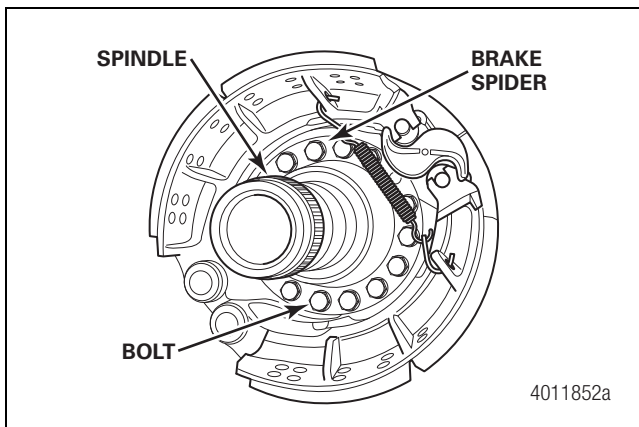

Figure 8.10
- **If the wheel end is equipped with S-cam drum brakes:** Install the spindle and the brake assembly spider on the knuckle. Install the mounting bolts and tighten to the torque specified in Section 11. Refer to Maintenance Manual MM-1189 for brake installation procedures. To obtain this publication, refer to the Service Notes page on the front inside cover of the manual. Figure 8.10.